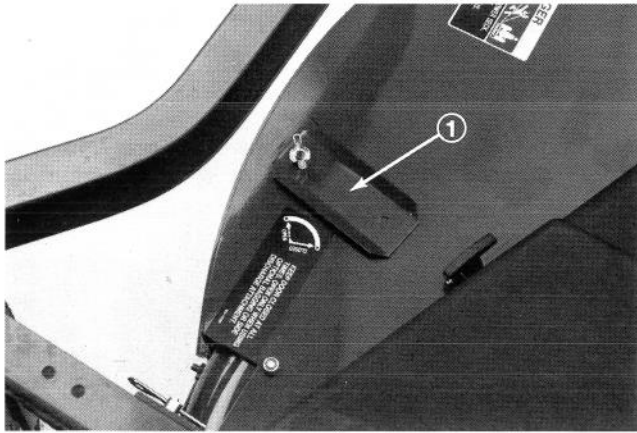

Figure 8
3. Loosen wing nut securing slot cover to top of deck (Fig. 8). Lift cover bump out of slot, rotate cover 180°, pull cover outward to move deck door into the discharge position. Insert cover into slot and tighten wing nut.